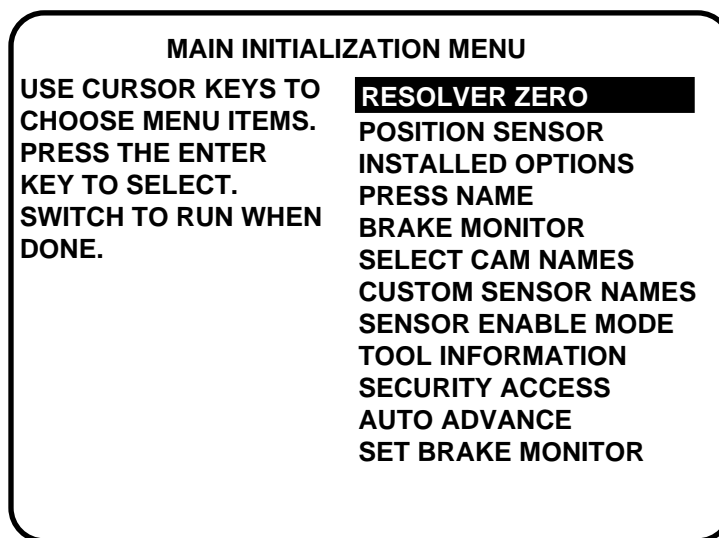

Figure 4-1. SmartPAC Initialization menu (the order may vary depending upon the options you have installed)
1. Select "Set brake monitor" from the Main Initialization menu (Figure 4-1). Select "Stop Time". You will see this next display: